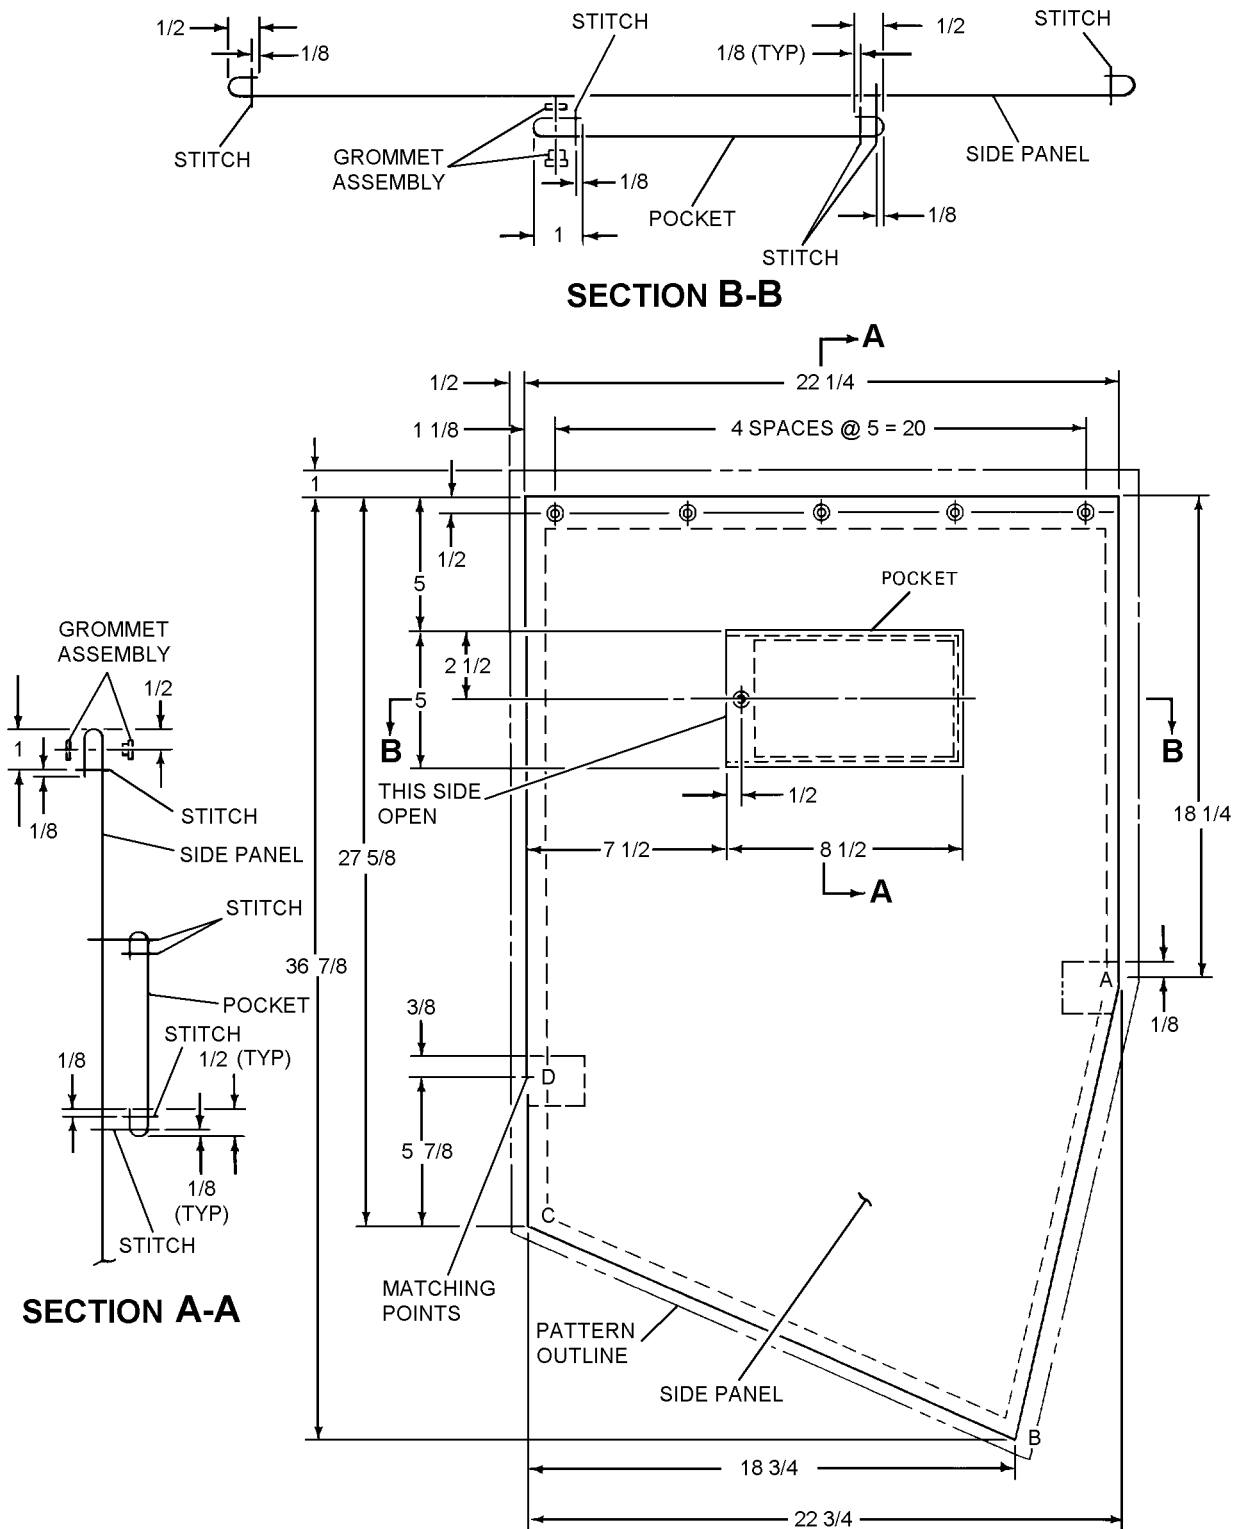

Figure 11-18. Side Panel
- b. Two Side Panels 23 3/4 inches x 38 3/8 inches (figure 11-18).
- c. One Inspection Card Pocket 6 inches x 10 inches (figure 11-18).
8. From 23 3/4 inch x 38 3/8 inch pieces of coated cloth, fabricate both side panels. Allowing for 1/2 and 1-inch hems, cut material so that it will conform to inner line dimensions shown in figure 11-18, after hems are made. Note the dimension from point A at the center of the right edge, to the left edge is 1/2 inch greater. Make 1/2-inch hems first, stitching 3/8 inch in along new edges. One-inch hem will then be made, stitched 7/8 inch in along new edge, overlapping 1/2-inch hems at corners. Locate and identify marker points on each side panel.
9. Install the 5 grommet assemblies (MS20230) on each side panel, centered on the 1-inch hem as shown in figure 11-18.
10. Take, the 6-inch x 10-inch piece of coated cloth (pocket) and hem according to Sections A-A and B-B. Position a grommet assembly on the pocket opening and install as shown. Place the pocket assembly into position (1-inch hem facing 27 5/8-inch edge) on one side panel and stitch as shown in figure 11-18. The opposite side panel is fabricated without pocket.